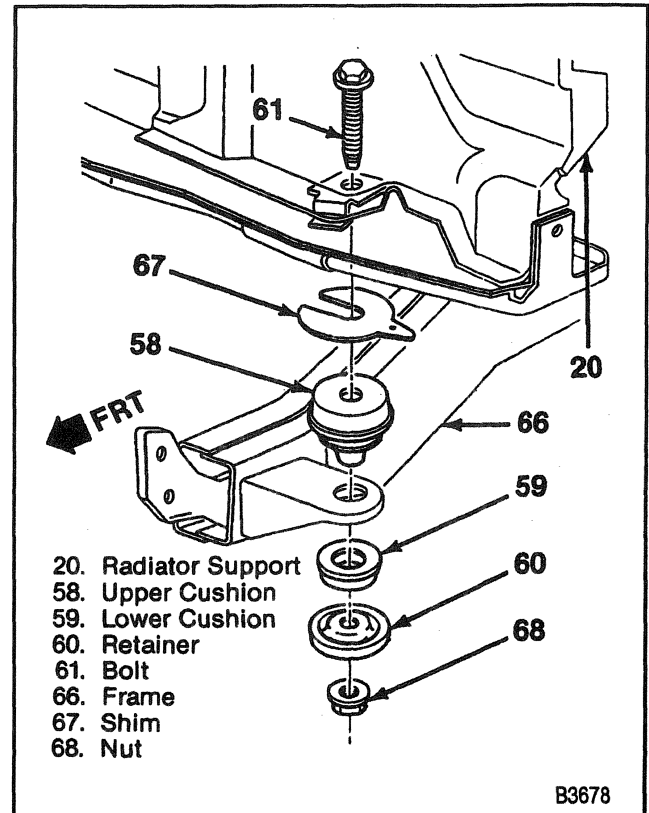

Figure 24—Radiator Support Mounting
20. Bolt holding the support mount to the vehicle (Figure 24).
3. Upper mounting cushion and shims between the support and the bracket on the frame (Figure 24).